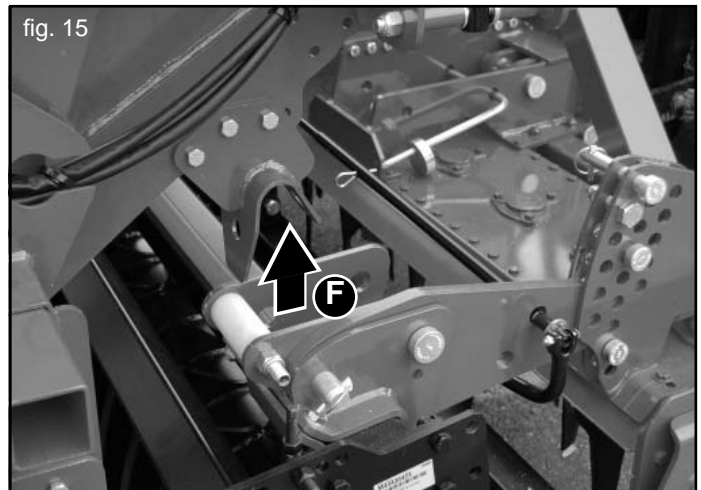
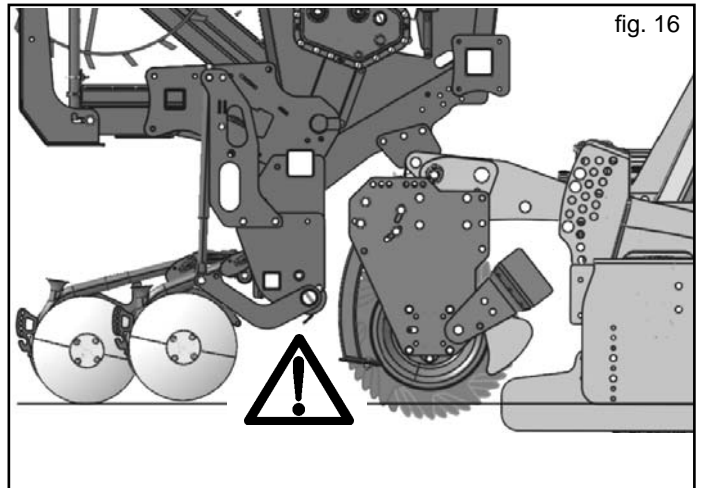

fig. 15
fig. 16
- 3) With the tractor come closer the seeder and, by operating on the lifter, hook the equipment in the suitable points (F, Fig. 15). **Check, that there aren't or can't be interferences among the mechanical members of the two machines. Especially check the area between the hind roller and the coulter arms (Fig. 16).**